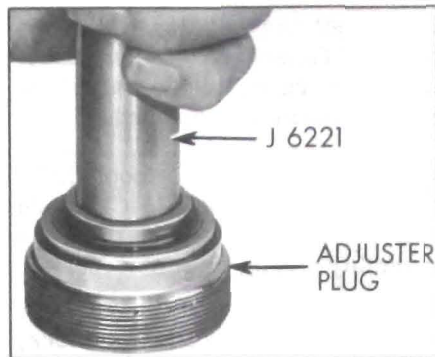

Figure 8-37—Removing Needle Bearing
5. Inspect needle bearing in adjuster plug and if rollers are broken or pitted, remove needle bearing by pressing from thrust bearing end using Tool J-6221 and discard bearing. See Figure 8-37.